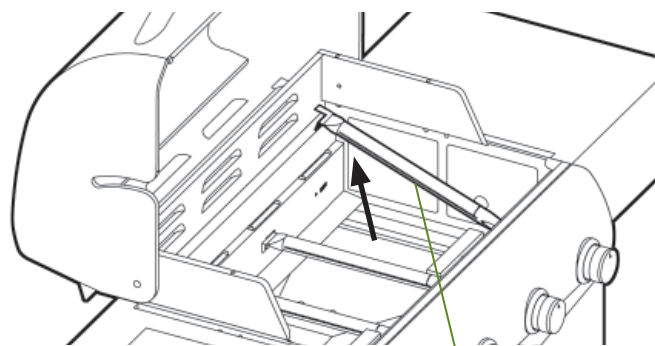

Fig. 17
4. Slide each Main Burner toward the grill front to disengage tab at rear of burner from slot in back wall of bowl. Gently lift the rear of the Burner. (Fig. 17) Slide the Burner towards the grill back to move the Venturi Hole off of the Valve nozzle. (Fig. 18) Lift each Main Burner from the grill.